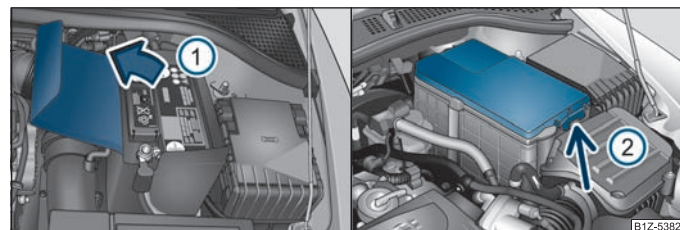

Fig. 167 Engine compartment: Polyester cover of the vehicle battery/plastic cover of the vehicle battery
The battery is located in the engine compartment in a polyester cover ⇒ fig. 167 - left or in a polyester cover ⇒ fig. 167 - right.
- Open the battery cover in direction of arrow ① ⇒ fig. 167 or press the interlock ② on the side of the battery cover, fold the cover up and remove the battery.
The edge of the polyester battery cover ⇒ fig. 167 - left is inserted between the battery and the side wall of the battery cover when working on the battery. ■